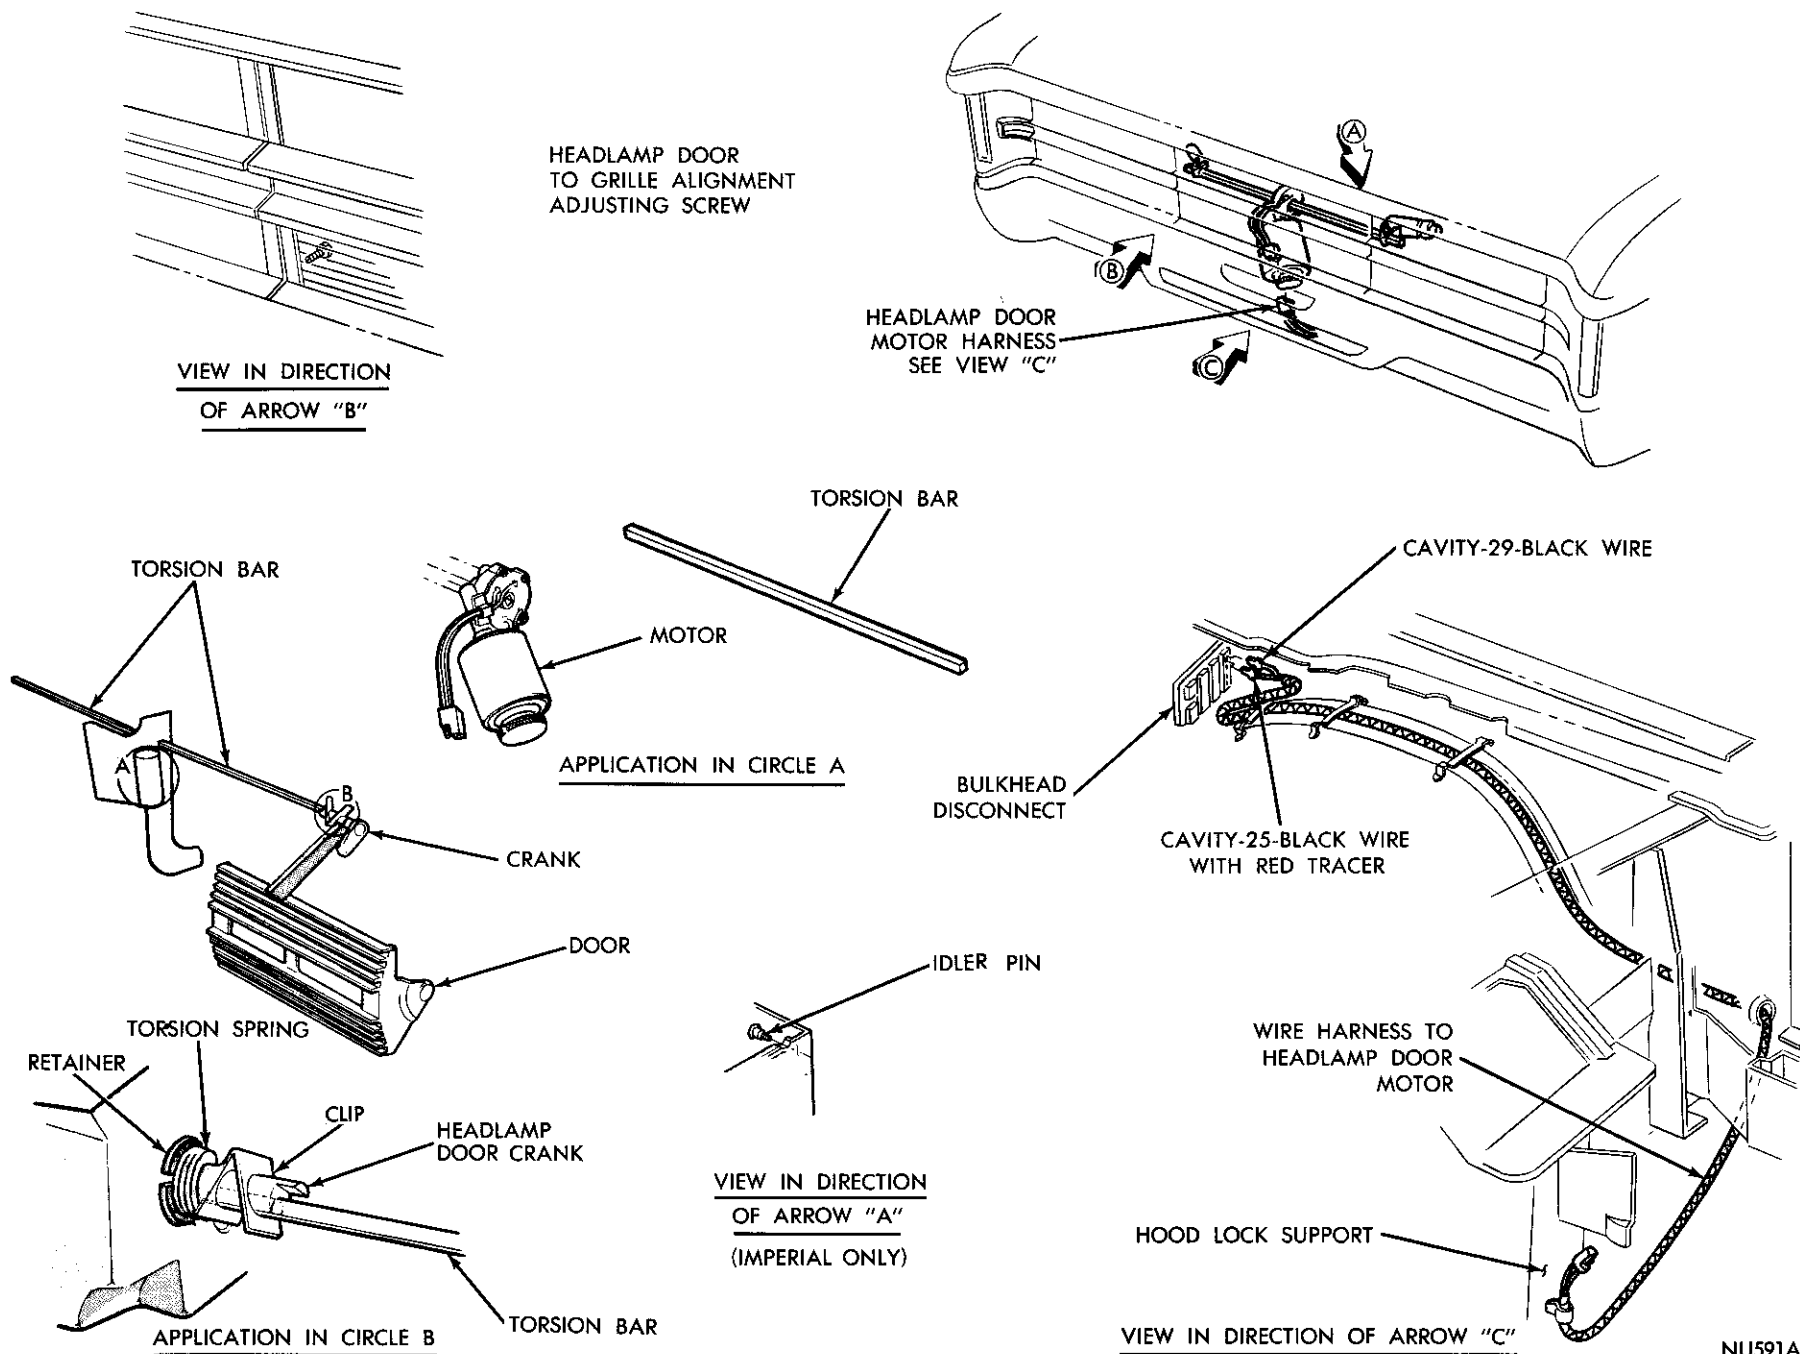

Fig. 1—Concealed Headlamps Adaptation
The headlamp doors (Fig. 1) are electrically operated. A single electric motor mounted on the hood lock vertical support is a series-wound type with two field windings. The motor has a worm gear drive and internal limit switches. A relay and circuit breaker assembly is mounted to the instrument panel lower reinforcement left of the steering column.
(1) Disconnect motor leads at harness connector (Fig. 1).
(3) Compress torsion bar to headlamp door crank clip and slide clip from crank (Fig. 1).
(6) Remove torsion spring and retainer clip from crank assembly (Fig. 1).
(7) Remove screw holding the crank assembly to the door arm at the inboard side of door.
(8) Remove crank assembly from headlamp door.
(9) Remove idler pin from outboard side of door, (Imperial only).
(10) Remove door from opening.